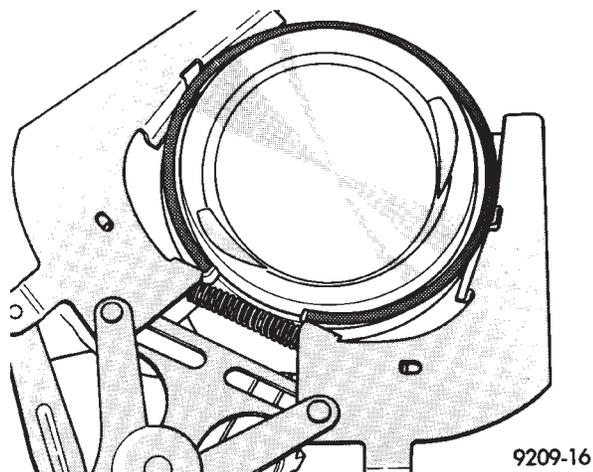

Fig. 76 Piston Rings—Removing and Installing
- (1) Identification (ID) mark on face of upper and intermediate piston rings must point toward piston crown.
- (2) Using a suitable ring expander, remove upper and intermediate piston rings (Fig. 76).
- (3) Remove the upper oil ring side rail, lower oil ring side rail and then oil ring expander from piston.
- (4) Carefully clean carbon from piston crowns, skirts and ring grooves ensuring the 4 oil holes in the oil control ring groove are clear.
(1) Install rings on the pistons using a suitable ring expander (Fig. 76).